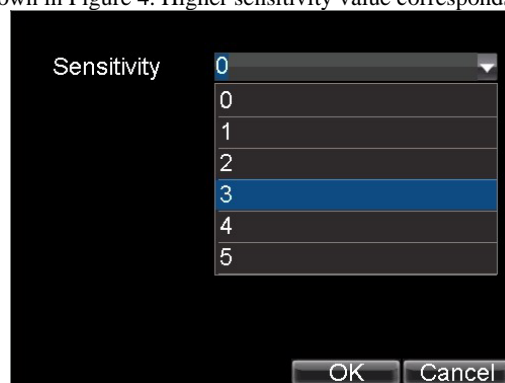

Figure 4. Motion Sensitivity Settings
5. Right click mouse or press the *MENU* button on the front panel to set the Motion Detection Sensitivity, shown in Figure 4. Higher sensitivity value corresponds to higher sensitivity level.